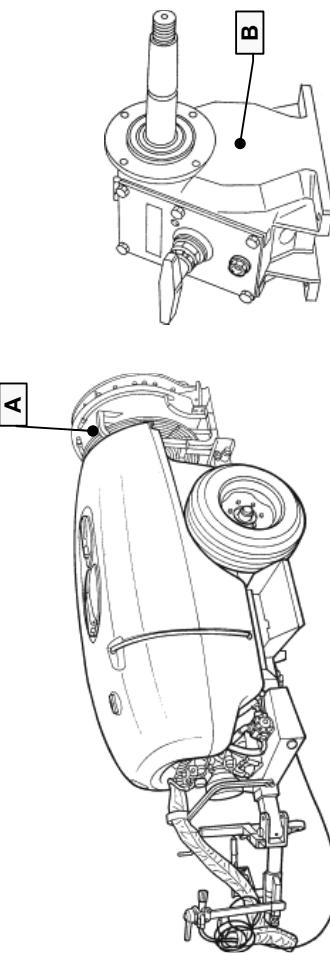

Fig. 2
## FAN UNIT (A - Fig. 2)
**GRUPPO VENTOLA (A - Fig. 2)**